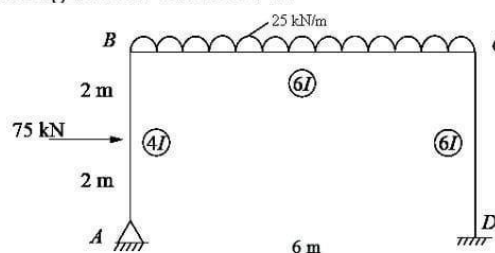

Figure 1
3. Analyse the portal frame shown in figure 1, using Moment-distribution method. Draw bending moment diagram and elastic curve. [10]